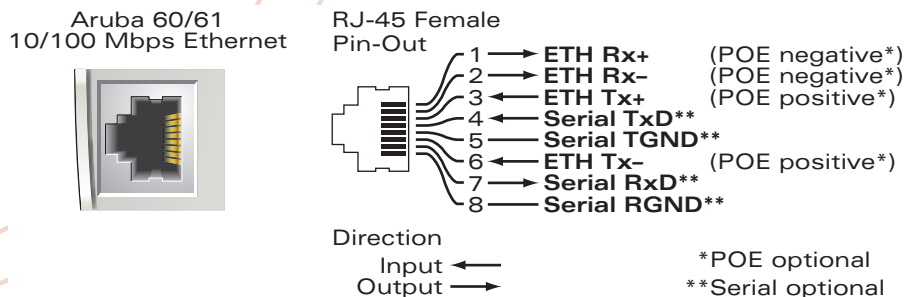

FIGURE A-1 Aruba 60/61 FE Port
The 10/100 Mbps Ethernet (FE) port is located on the right-hand side of the Aruba 60/61 and has an RJ-45 female connector. The port pin-outs are shown in Figure A-1 :